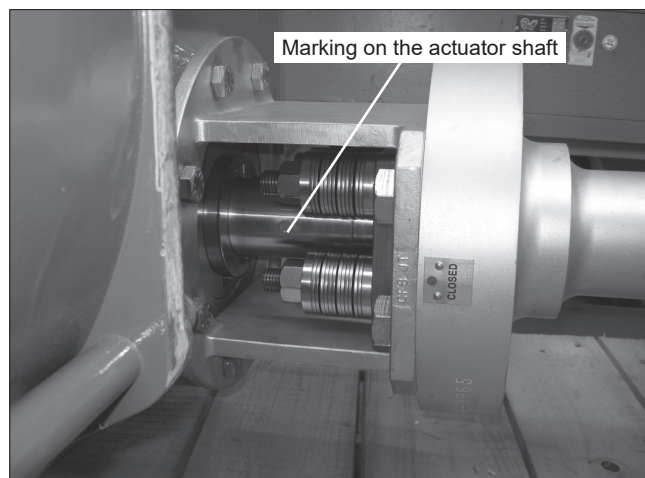

Fig. 16 Installation markings
- Make sure the marking at the actuator shaft is in line with the marking on the body when reinstalling the valve (see Figure 16).